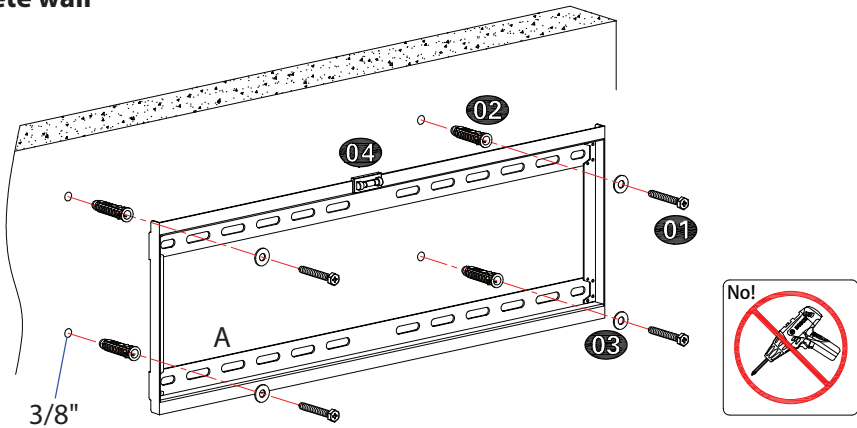

Figure 1 (keep the Wall plate level)
Step 1: Remove the plaster board on the surface of concrete wall when assembling mount on the concrete wall. Hold Wall plate (A) against wall at desired position on concrete wall, then using a pencil mark 4 hole locations. Then drill holes according pencil marks using 3/8" size drill bit to a depth of 2.5". Then you will need to use wall anchors 02. Insert wall anchors 02 into holes, you may need to use hammer to lightly tap wall anchors into wall. Then fix Wall plate (A) to the wall with lag bolt 01 and washers 03. (Figure 1)